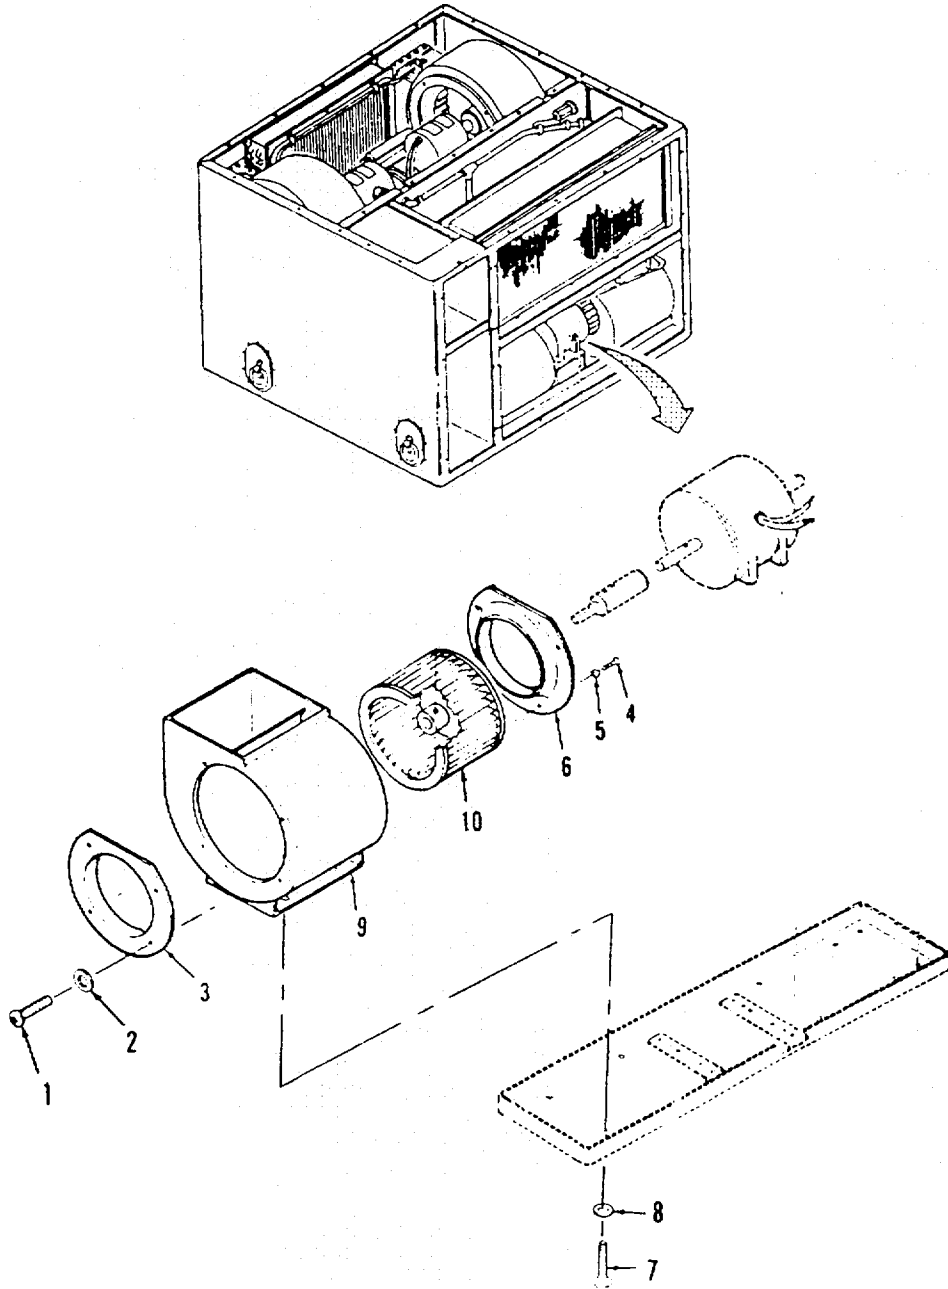

Figure 4-4. Evaporator Fan Scrolls.
**a. Removal.** (Refer to Figure 4-4).
- (1) Remove four screws (1), four flat washers (2), and inlet bell (3).
- (2) Remove four screws (4), four flat washers (5), and inlet bell (6).
- (3) Remove four screws (7), four flat washers (8), and evaporator fan scroll (9) from evaporator impeller fan (10) on evaporator fan assembly.
- (4) Repeat for other side if other evaporator fan scroll is being replaced.